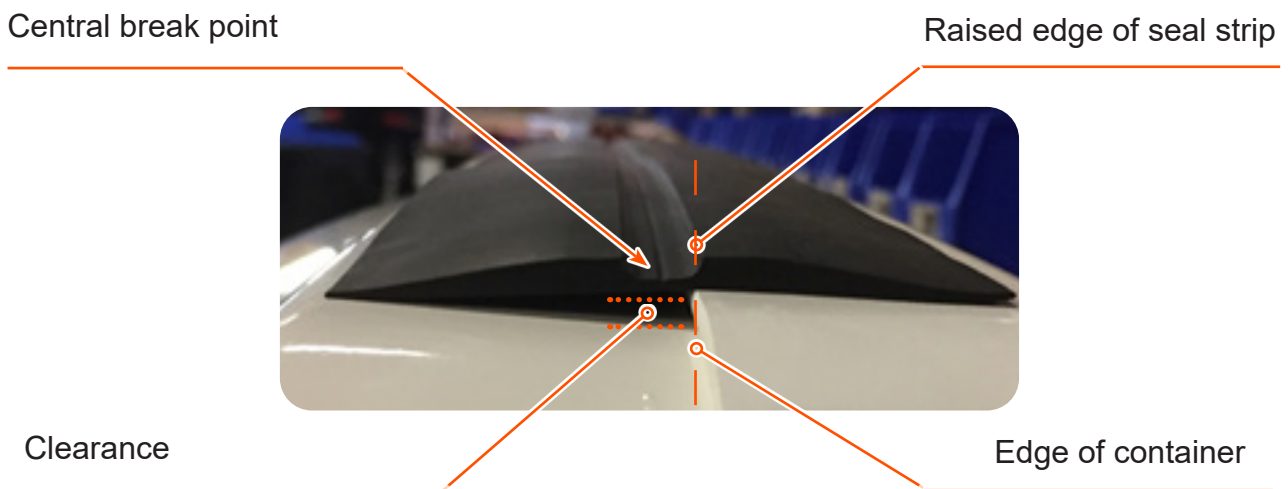

FIGURE 2
- (1) Put the cut edge of the seal strip on the middle of the hinge strip and do a check to make sure that the upper external raised edge of the seal strip is aligned with the upper edge of the container. Refer to **Figure 2**.
- (2) Do a check to make sure there is clearance between the central break point of the seal strip and the container. Refer to **Figure 2**.